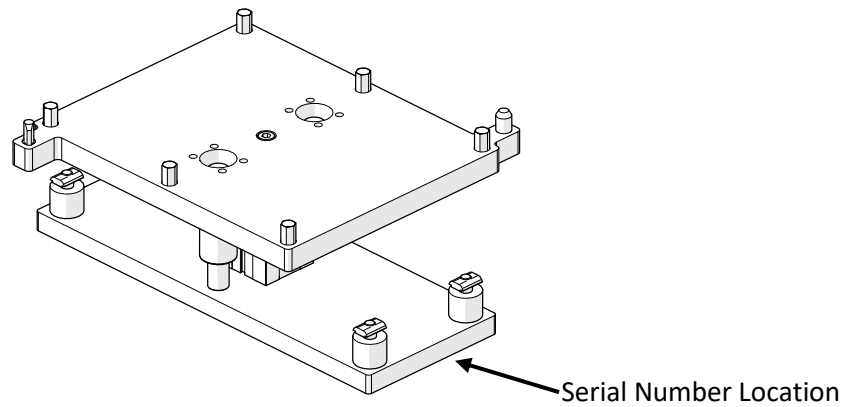

Figure 19: Serial Number Location
Step 5: Align P-00614 Washer (Figure 19)